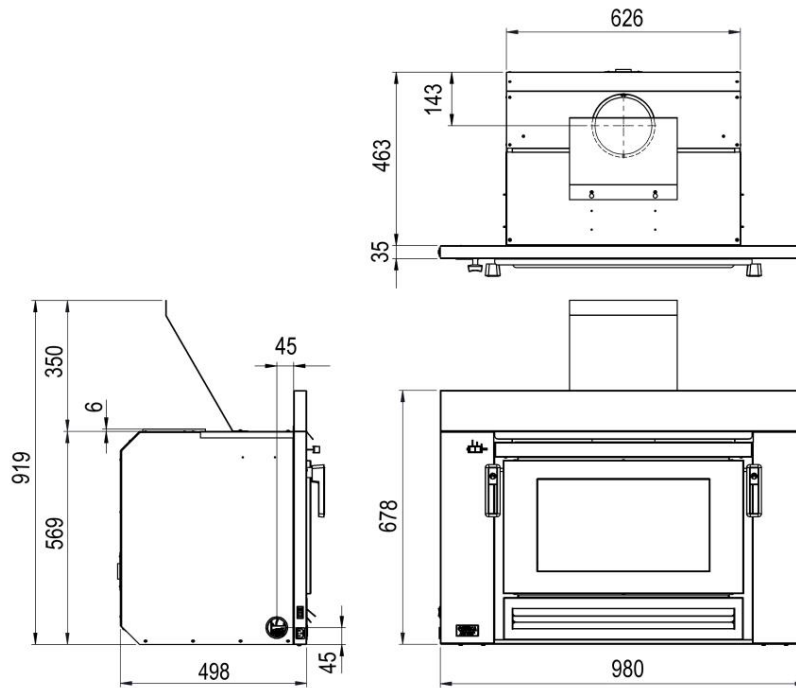

Fig. 1
G. Xander Wood Burner Dimensions (Fig 1)